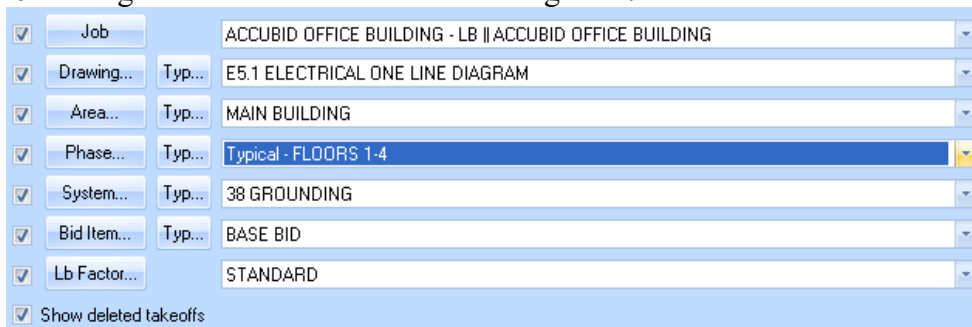

Figure 17
29. Change the Breakdown as shown in Figure 17.